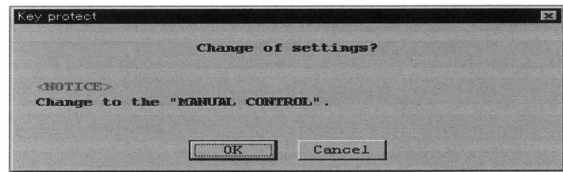

Fig.94
- ③ A message box like the one in Fig. 94 appears. If it is desired to change key operation status, click on "OK".